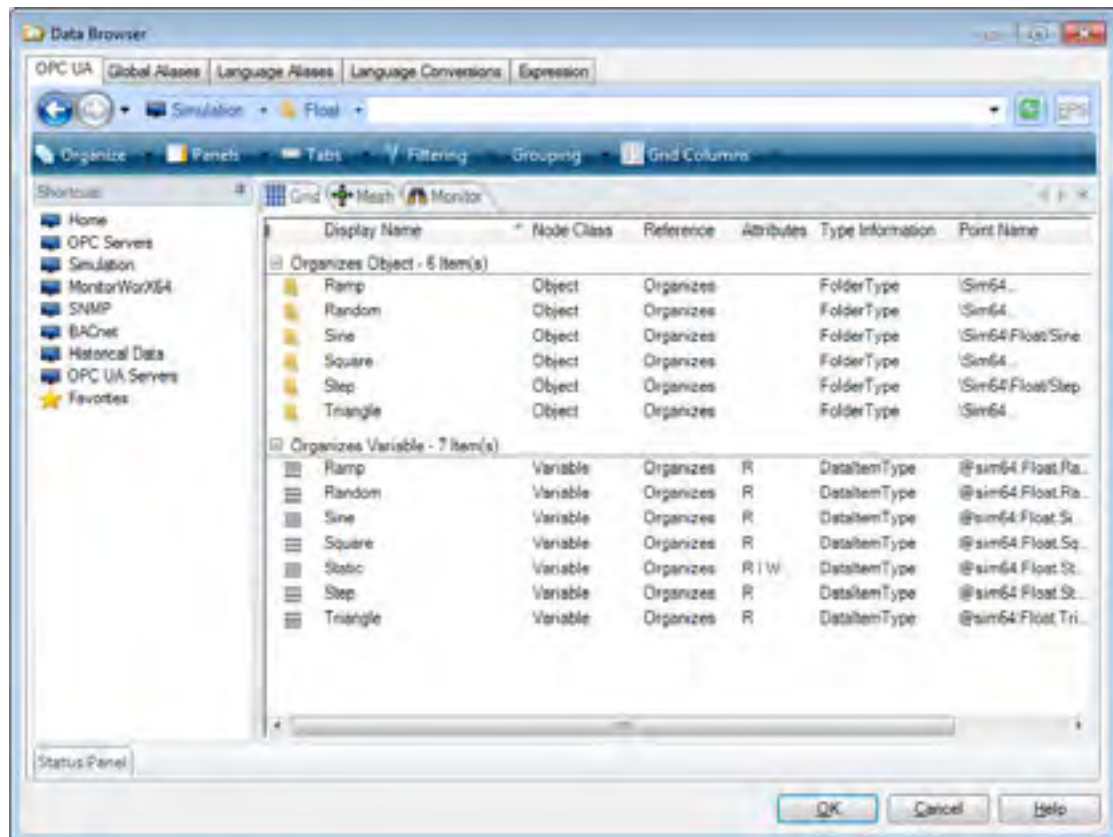

Figure L3.6 - Selecting a Data Source in the Data Browser
3. In the Data Browser that appears, in the navigation pane, click **Simulation** and then on the right double-click the **Float** folder. The Data Browser will look something like the illustration in Figure L3.6.